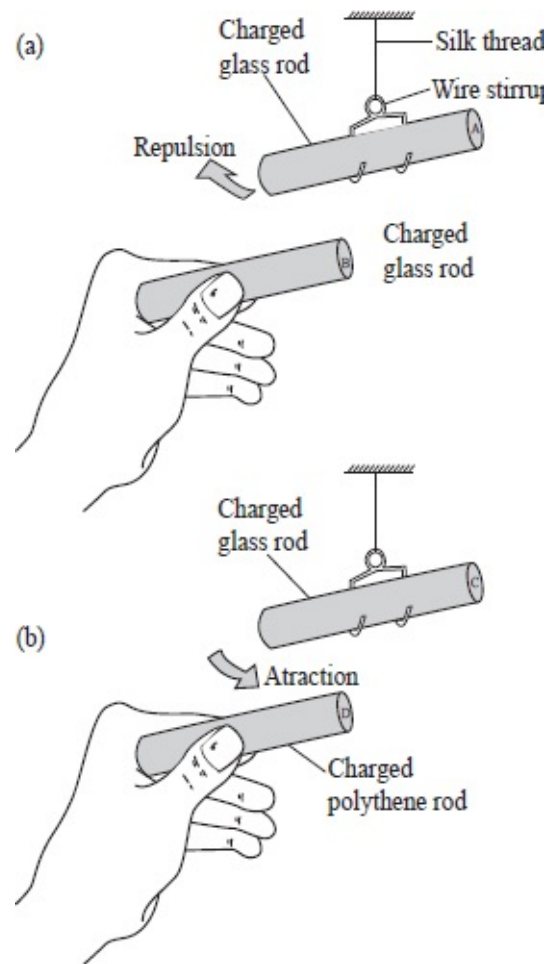

Fig. 9.4: Law of charges
- Hold this second glass rod close to the suspended glass rod, as shown in figure 9.4 (a) and observe what happens.
- With the glass rod still suspended, bring a polythene rod rubbed with fur close, to it as shown in figure 9.4 (b). Note what happens.